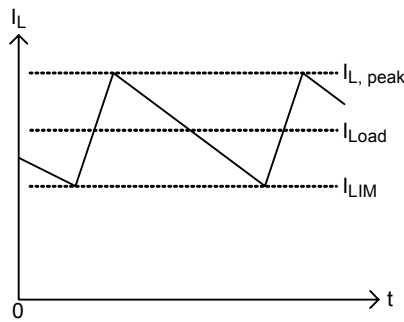

Figure 7. "Vally" Current Limit
RT8208E/F has cycle-by-cycle current limiting control. The current limit circuit employs a unique “valley” current sensing algorithm. If the magnitude of the current sense signal at CS is above the current limit threshold, the PWM is not allowed to initiate a new cycle (Figure 7) in order to provide both good accuracy and a cost effective solution, the RT8208E/F supports temperature compensated MOSFET RDS(ON) sensing. The CS pin should be connected to GND through the trip voltage setting resistor, RCS. The CS terminal source 10μA ICS current, and the trip level is set to the CS trip voltage, VCS as in the following equation.